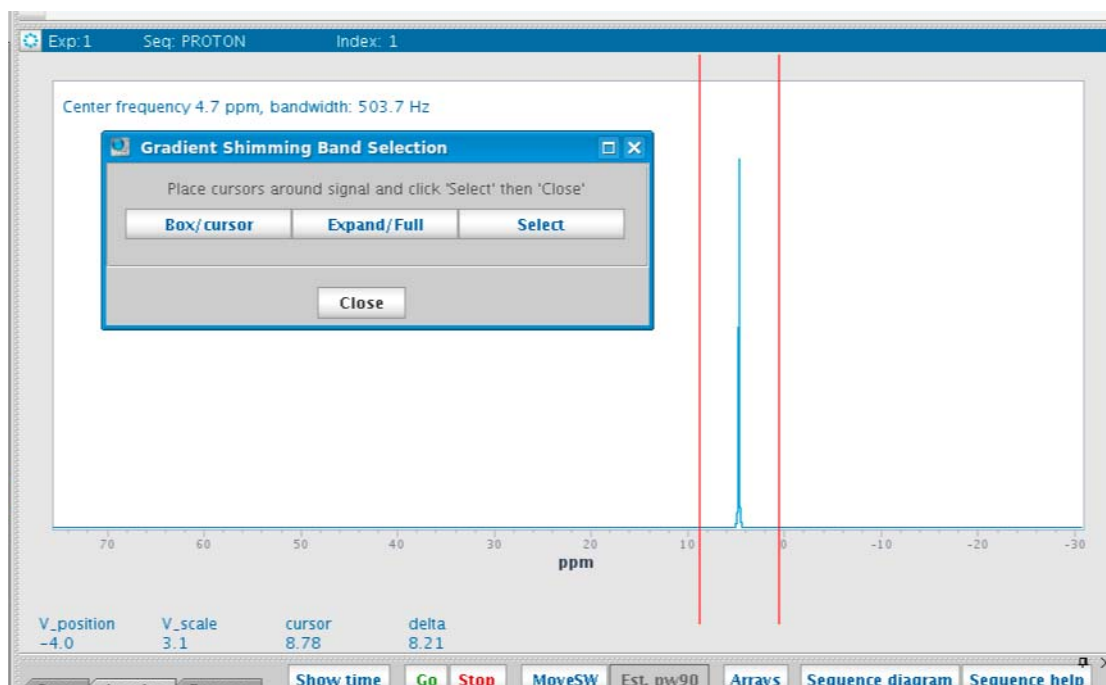

Figure 15 Define band result showing Gradient Shimming Band Selection pop-up
- 2 Click the **Define band** button. This will acquire a spectrum, display the result in the graphics canvas, and present the Gradient Shimming Band Selection pop-up (Figure 15).